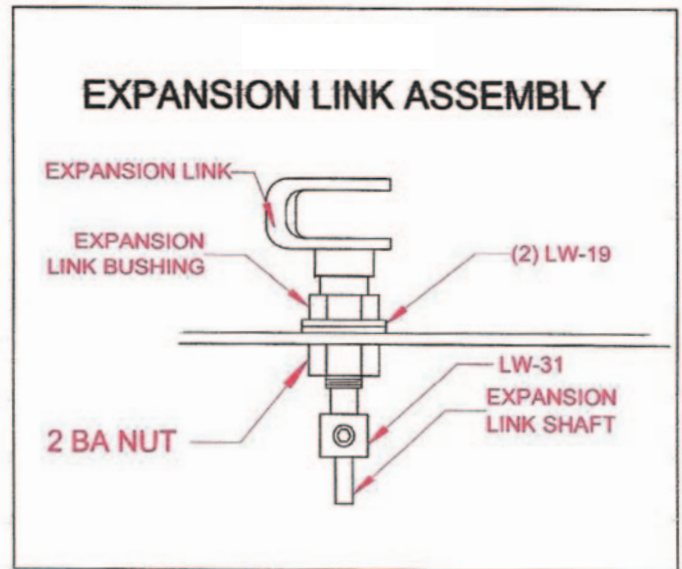

Figure 2-4
The first of these is the installation of the expansion link (*Roundhouse item 9*) and expansion link bushing (*Roundhouse item 4*). Refer to **Figure 2-4** in the drawings. The mainframe design eliminates the need for the weight shaft bracket (*Roundhouse item 5*). In order that the rest of the valve gear still lines up as intended, two washers LW-19 are installed ahead of the expansion link bushing. The bushing is then inserted in the hole in the mainframe and fastened with the 2BA nut supplied. Instead of the Starlock washer (*Roundhouse item 7*) at the end of the expansion link shaft, a collar LW-31 is used. In the case of the inside frame version, the ends of the expansion link shafts may touch or even interfere with each other. If this is the case, they can be trimmed back to the end of the collar. This is shown in **Photo 5**.